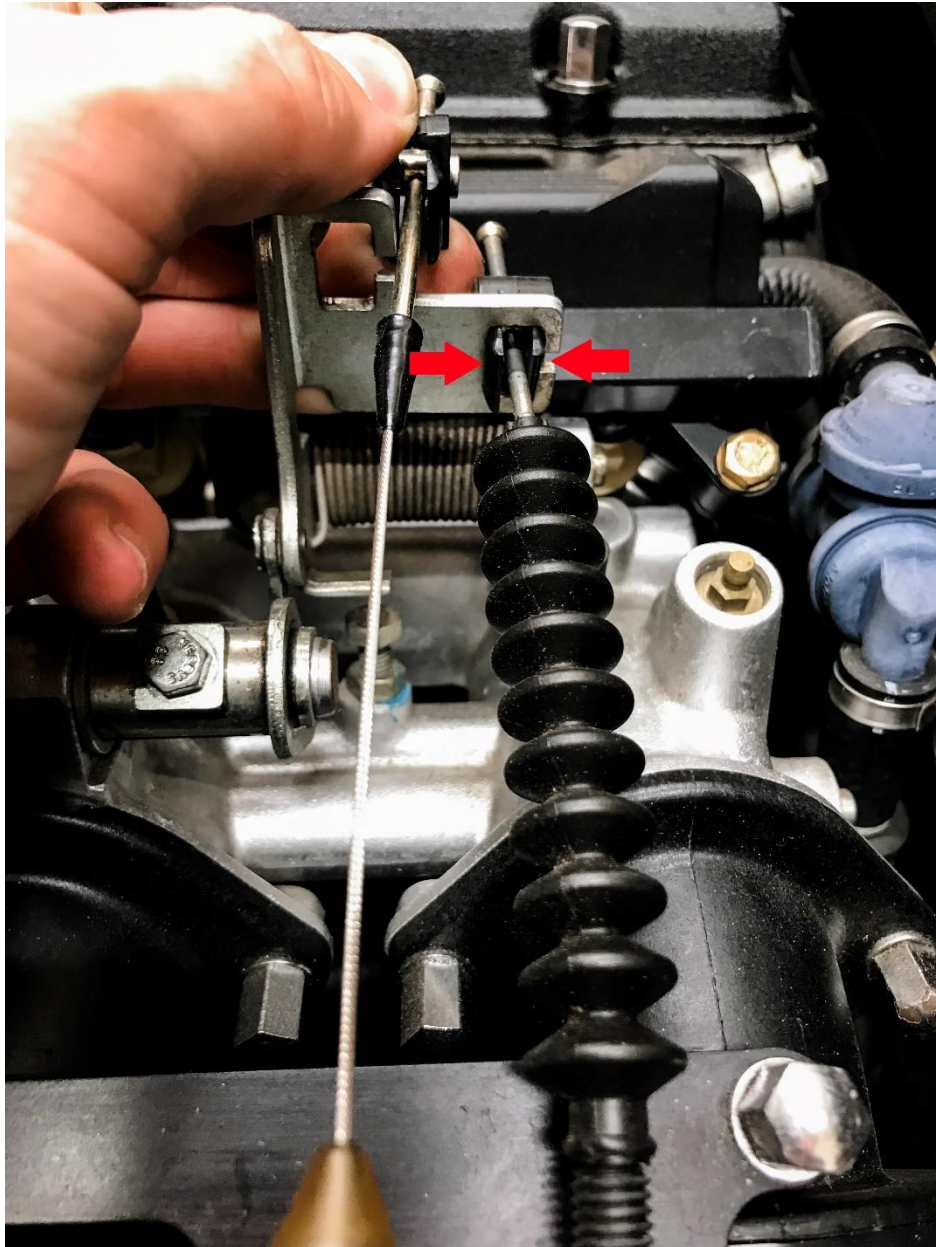

Figure 14
14. For the S38B36 disconnect throttle and cruise control cable next by pulling the throttle actuator plate towards you (US driver side) and then pinching the grommet and sliding grommet and cable out of throttle actuator. See Figure 14 (S38B36 shown).